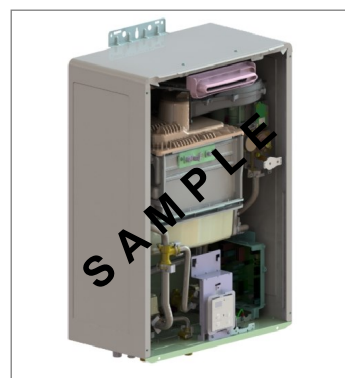

Fig 40. Front Panel Removed From Tankless Water Heater
3. Remove the front panel of each tankless water heater in the system (Fig 40).
**Note:** Fig 40 is a sample tankless water heater image for illustrative purposes only. Your tankless water heater may appear differently.